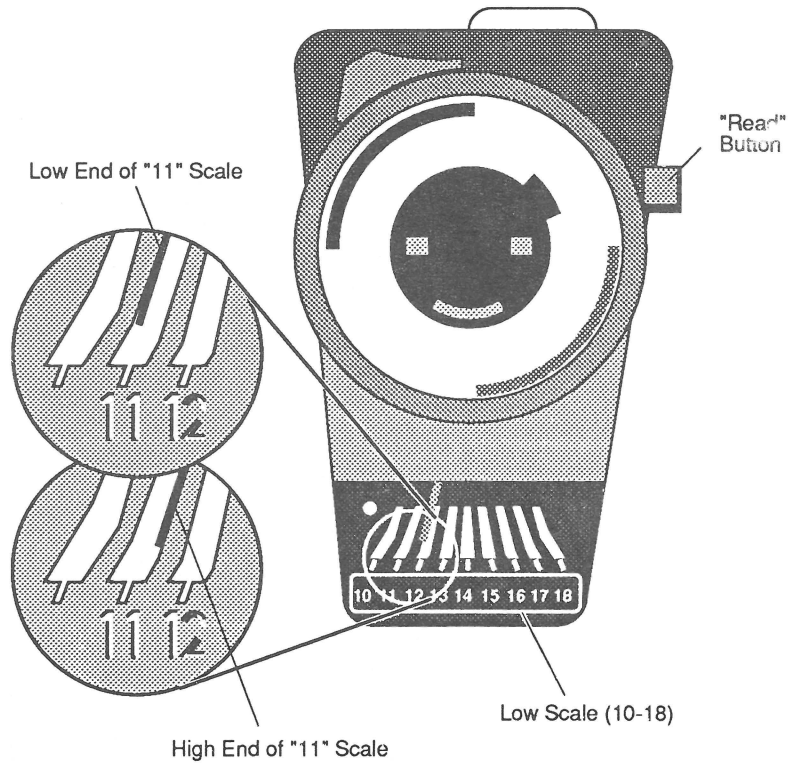

FIGURE 14
11. Measure screen luminance with the light meter. The light meter should read at the low end of the 11 scale (40 ft.-lamberts) (**see Figure 14**).
12. Set the brightness control at maximum (full clockwise), and recheck screen luminance with the light meter. The light meter should not measure beyond the 11 scale (above 60 ft.-lamberts) (**see Figure 14**).
2. Move the side switch up so that the lower scale reads 10 through 18 (**Figure 14**).
3. Move the lens hood aside to uncover the lens of the meter. Place the lens against the screen exactly at screen center, press the "read" button, and obtain the light meter reading on the lower scale (**Figure 14**).